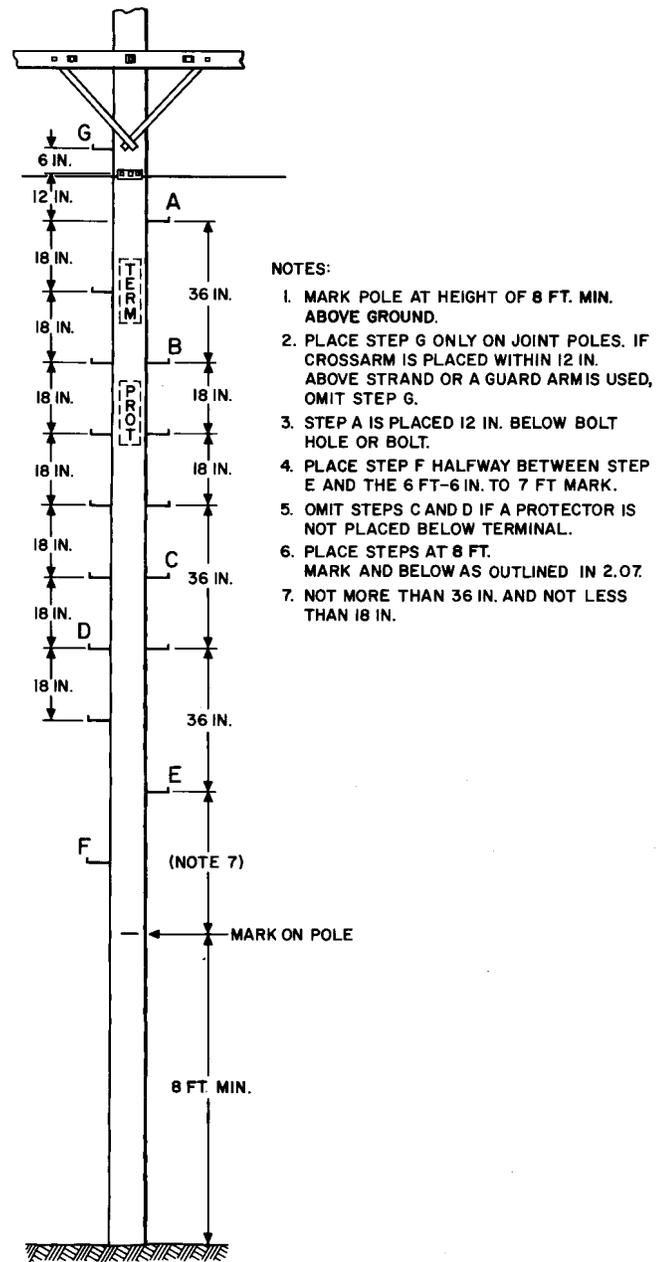

Fig. 10—Terminal on Cable Side
5.03 For pole mounted terminals on cable side of pole see Fig. 10.